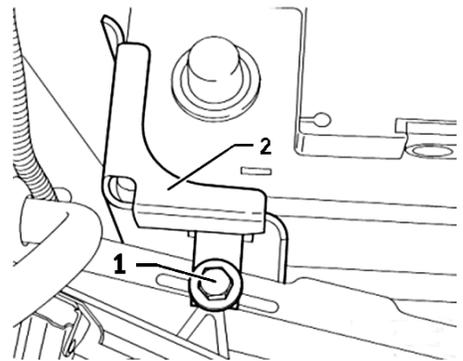

Fig. 9 Retainer bracket removal
15. Remove bolt (1) and retainer bracket (2), Fig. 9.
3. Install retainer bracket (2) and **torque** bolt (1) to 80 inch lbs., Fig. 9.